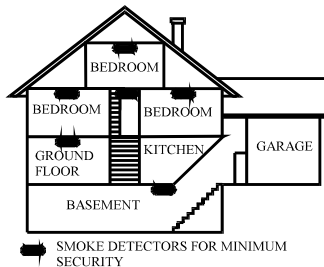

Figure 2: Installation locations for smoke & heat detectors in multiple-floor apartments or homes
- Install a smoke & heat detector on every floor in a multi-floor home (*see Figure 2*).